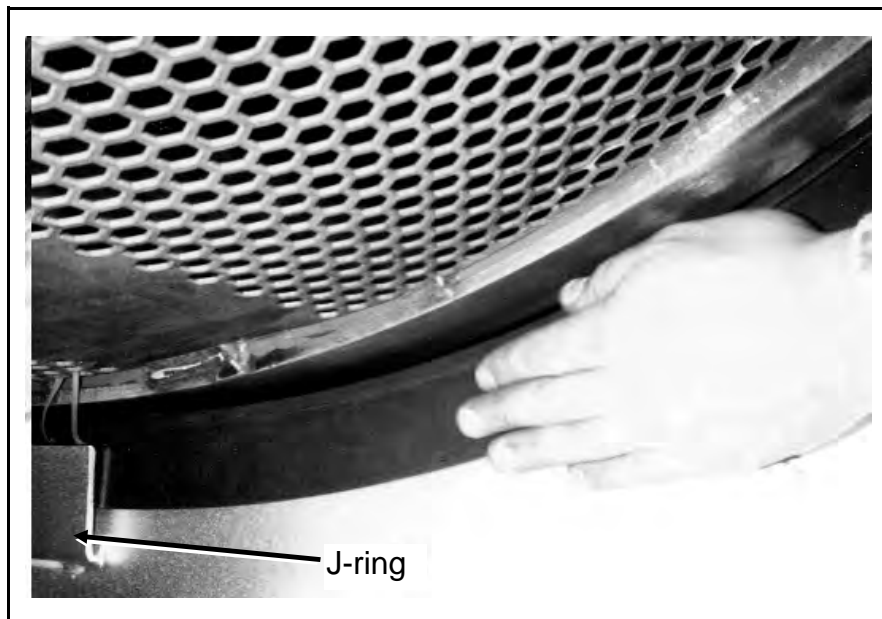

FIGURE 3 (MSSM0108AE)
5. With one person feeding the T-Seal into the J-ring and another person slowly hand turning the basket via the large cog belt, continue feeding the new T-Seal into the left J-ring as shown in FIGURE 3 until the entire T-Seal is fed through.